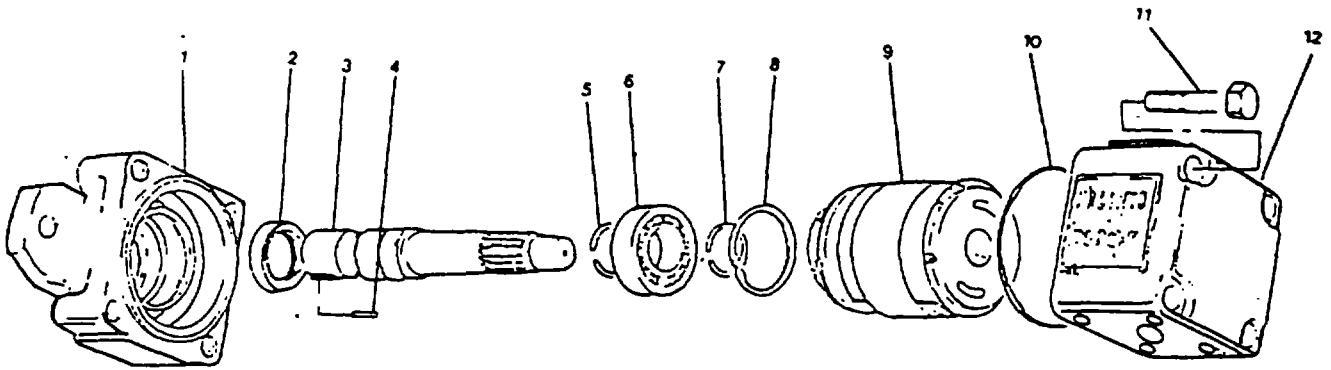

FIGURE 4-38. Hydraulic Pump.
##### REMOVAL (FIGURE 4-38)
##### DISASSEMBLY (FIGURE 4-38)
ASSEMBLY (FIGURE 4-38)
- f. Install shouldered shaft (3, FIGURE 4-38) into large open end of front mounting cap (1).
- g. Ensure that shouldered shaft (3) is properly engaged with front mounting cap (1).
- h. Install retaining ring (8) into front mounting cap (1).
- i. Install Woodruff key (4) in keyway of shouldered shaft (3).